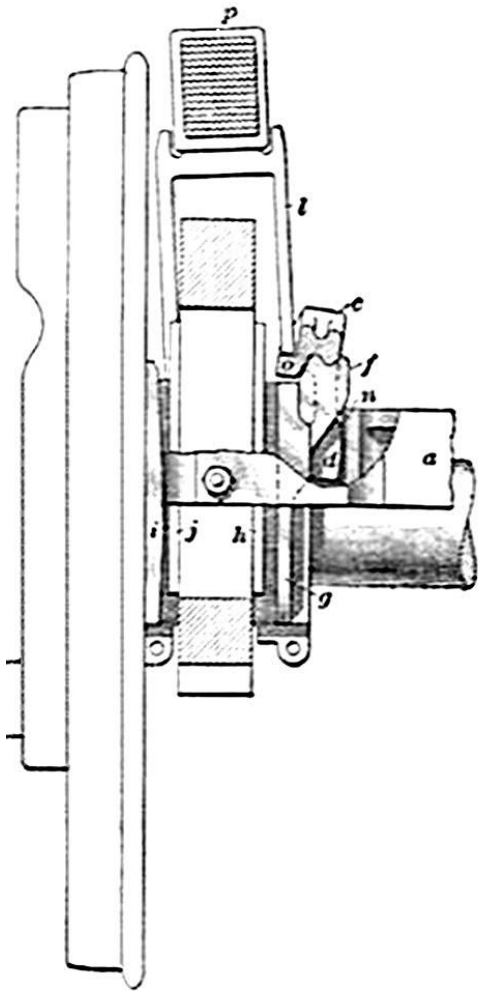

FIG. 9
12. Operation. — When a locomotive enters a curve, the flange of the front driving wheel on the outside of the curve is forced against the rail. As soon as the pressure between the flange of the wheel and the rail reaches a certain predetermined amount, the wheel yields and, although the flange remains in contact with the rail, moves the flange *i* of the driving box inward toward the shoe *j*, as shown in figure 9. Therefore, the rail and the flange, as well as the wheel hub liner, do not wear to the same extent as if the driving box had no lateral or side